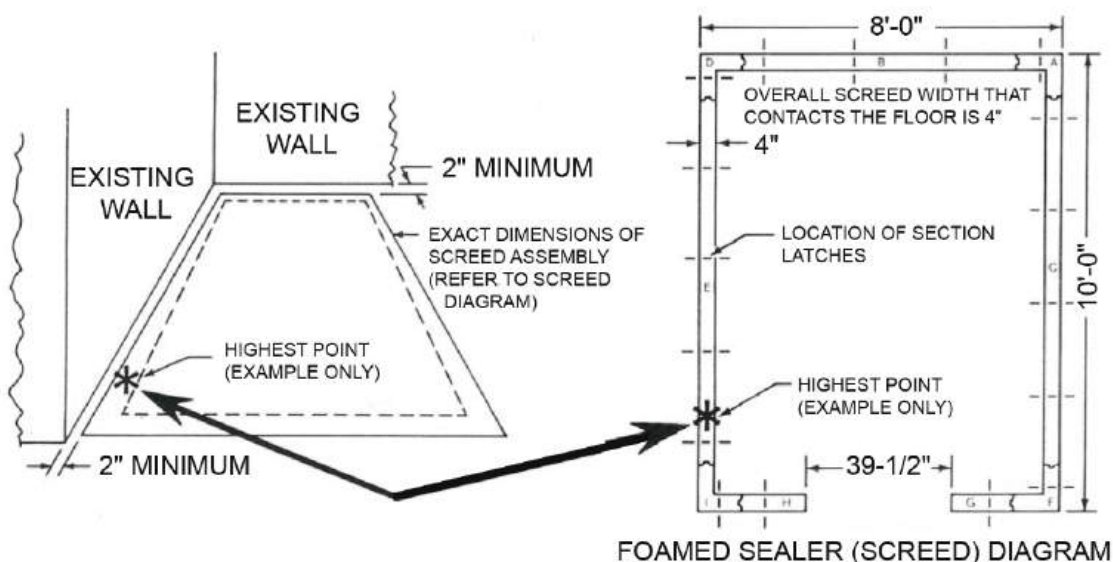

**Figure 1**
Locate the floor sealer (screed) diagram that was packed in the hardware box and, using it as a guide, draw a properly dimensioned outline of the sealer (screed) assembly directly onto the building floor precisely where the walk-in will be situated. These lines will be the same dimensions as the dimensions of the walk-in in both directions. If the walk-in is to be installed next to an existing building wall(s), make sure that a **MINIMUM OF 2" REMAINS BETWEEN THE DRAWN OUTLINE AND THE BUILDING WALL(S)**. This space will allow for irregularities in the building wall(s) and will permit a free flow of air between the two surfaces. **CAREFULLY CHECK FOR SQUARENESS** by confirming that the dimensions between opposite corners are equal (Figure 1).
Since the foamed sealer (screed) is retained in position by a 3/8" thick plywood sealer guide, which will be secured to the building floor, it is imperative that the sealer guide be accurately located, as well, on the building floor. Refer to the sealer guide diagram which was also packed in the hardware box. On the diagram, you will notice that the sealer guide is located 7/8" INSIDE the drawn outline which represents the outside dimensions of the sealer (screed) assembly. Further, Fig. 1 illustrates that the sealer guide is 2 1/4" wide centered beneath a 4" wide sealer leaving a border of 7/8" along each edge. Draw another outline of the outside dimensions of the sealer guide directly onto the floor. There should be exactly 7/8" between the new sealer guide outline and the previously drawn sealer (screed) outline (Figure 2, on next page).
Locate the SEALER GUIDES. They are bundled together and packed along with the walk-in corner or wall panels and are labeled accordingly. Sealer guides are strips of 3/8" plywood 2-1/4" wide and 8' long as shown in Figure 1, p. 18.
Each sealer guide, when positioned properly, will have its outer edge precisely over the INSIDE OUTLINE drawn on the building floor, Figure 2, p. 19, and its outer edge will be exactly 7/8" from the outline which represents the foamed sealer outer edge. The quality of workmanship performed in locating and securing the sealer guides will be transmitted directly to the location of the foamed sealers (screeds) and, subsequently, to the overall construction of the complete walk-in. BE EXACT! Refer to Figure 1 and Figure 2, pp. 18-19.
**NOTE:** All foamed sealers are male formed on one end and female formed on the opposite end. The configuration of the ends is clearly indicated on the diagram. Also, make certain that the strike housing portion of the section latches is visible on the upper edge of the sealer when it is in position (see Figure 1 and Figure 2, pp. 18-19).